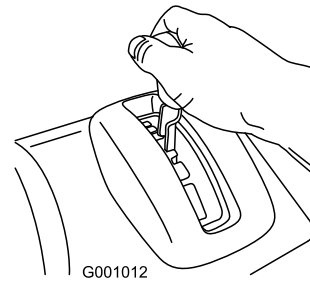

Figure 11
- Place the speed selector lever to the desired forward position, making sure that it locks in the notch (Figure 11).